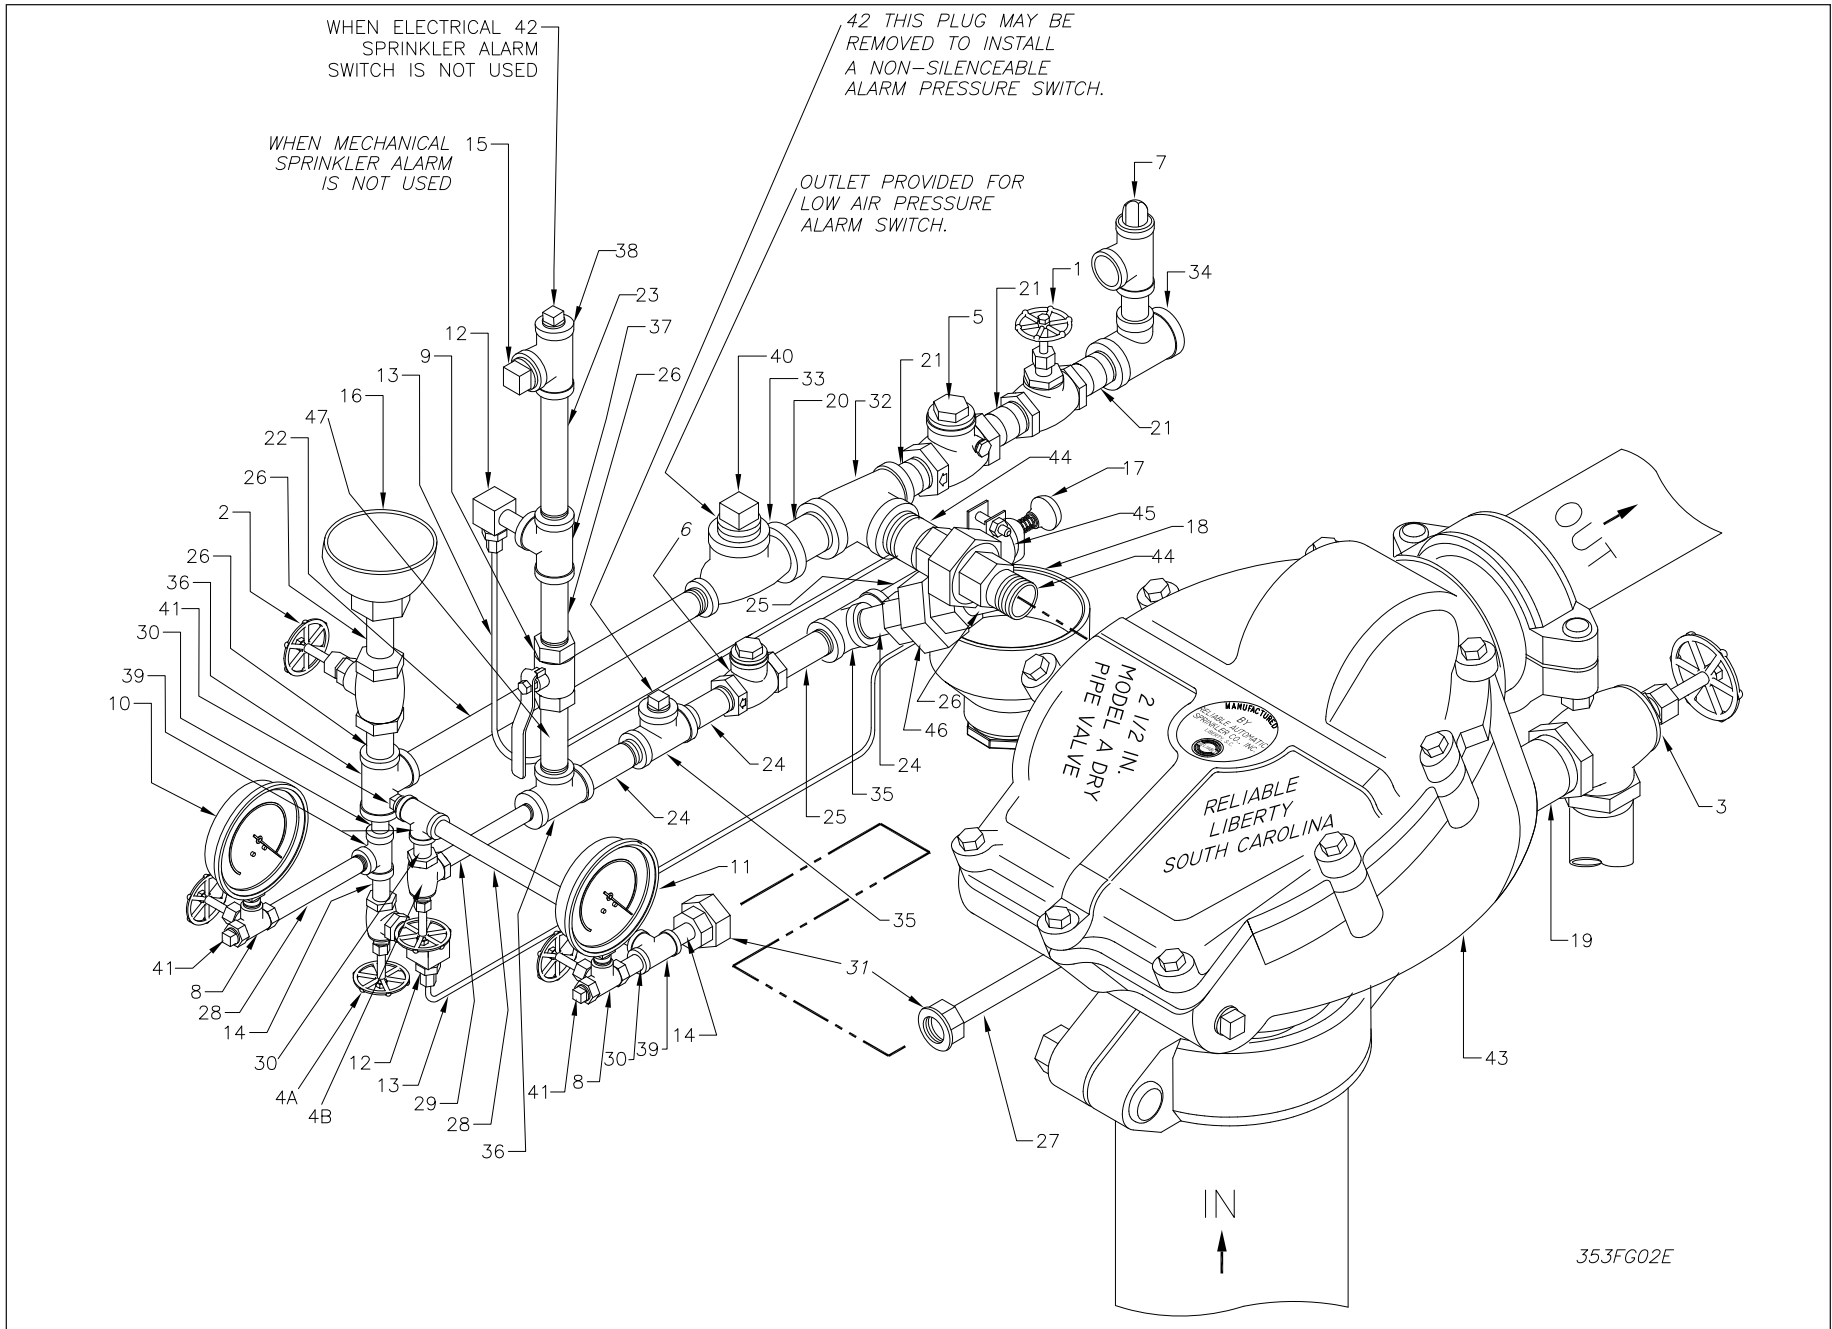
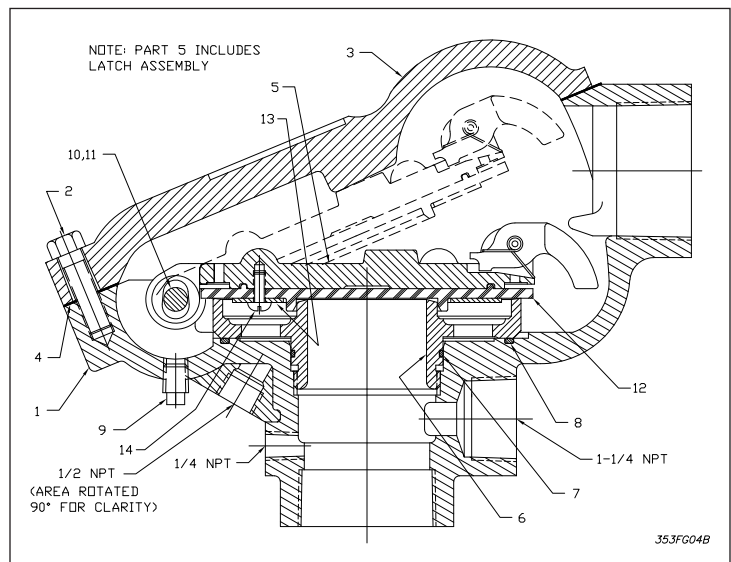

Fig. 2 - Model "A" Dry Pipe Valve with Model A Trim (without priming chamber & fill line attachment)
Fig. 4
The assembled basic trim set is shown in Fig. 2.
Reliable Model A Dry Pipe Valve with Model A Trim (Fig. 2)
Figs. 2 and 4 show the trim and valve parts in their normal position.
2. Open Main Drain Valve (Item 3 - Fig 2) and drain system.
4. Push in Plunger of Ball Drip Valve (Item 17 - Fig 2) to force ball from its seat.
5. Remove Drain Plug (Item 9 - Fig 4) to drain body of Dry Pipe Valve. Replace Drain Plug securely when flow of water has stopped.
6. Remove Cover (Item 3 - Fig 4) and raise Clapper (Item 5 - Fig 4) as far as possible. Thoroughly clean air and water seats making certain that they are free from scale, dirt, lint, etc. Inspect and clean or replace rubber facing. NEVER APPLY GREASE, COMPOUND, SHELLAC, OR ANY OILY SUBSTANCES TO SEATS OR RUBBER FACING.
8. Center the locating diameter of the Clapper Rubber Facing (Item 12 - Fig 2) around the water seat. The clapper (Item 5 - Fig 4) should sit flat and with a minimum of movement when the seating is correct. Pressing down on the clapper may help to accomplish the locating and seating of the clapper.
9. Replace Gasket (Item Item 4 - Fig 4 - Fig 2) and Cover (Item 3 - Fig 4) and uniformly tighten cover bolts (Item 2 - Fig 4).
Refer to Fig. 4.